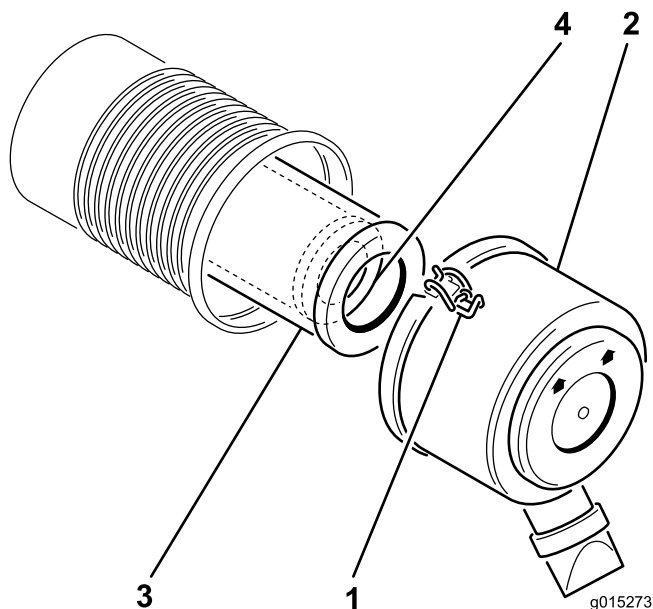

Figure 14
2. Release latches securing air cleaner cover to air cleaner body. Separate cover from body (Figure 14).
4. Gently slide the primary filter out of the air cleaner housing (Figure 14).
2. If the safety filter is being replaced, carefully slide it into the filter body (Figure 14).
3. Carefully slide the primary filter over the safety filter (Figure 14).
5. Install the air cleaner cover with the side indicated as up facing upward and secure the latches (Figure 14).